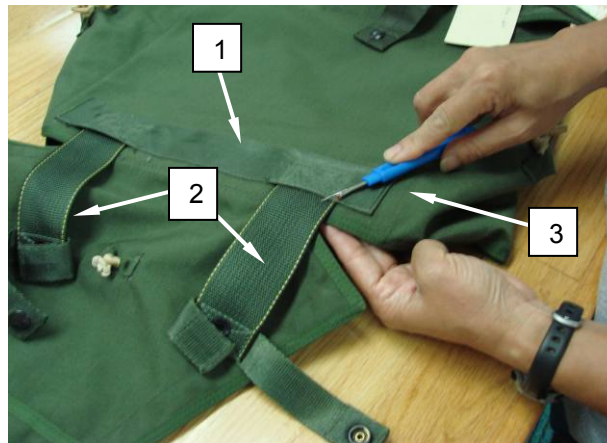

Figure 30. Remove Stitching from Reinforcement Panel.
2. Carefully remove stitching from the reinforcement webbing (Figure 30, Item 1) that secures the left and right adjustment straps (Figure 30, Item 2) using a stitch removal tool (Figure 30, Item 3).